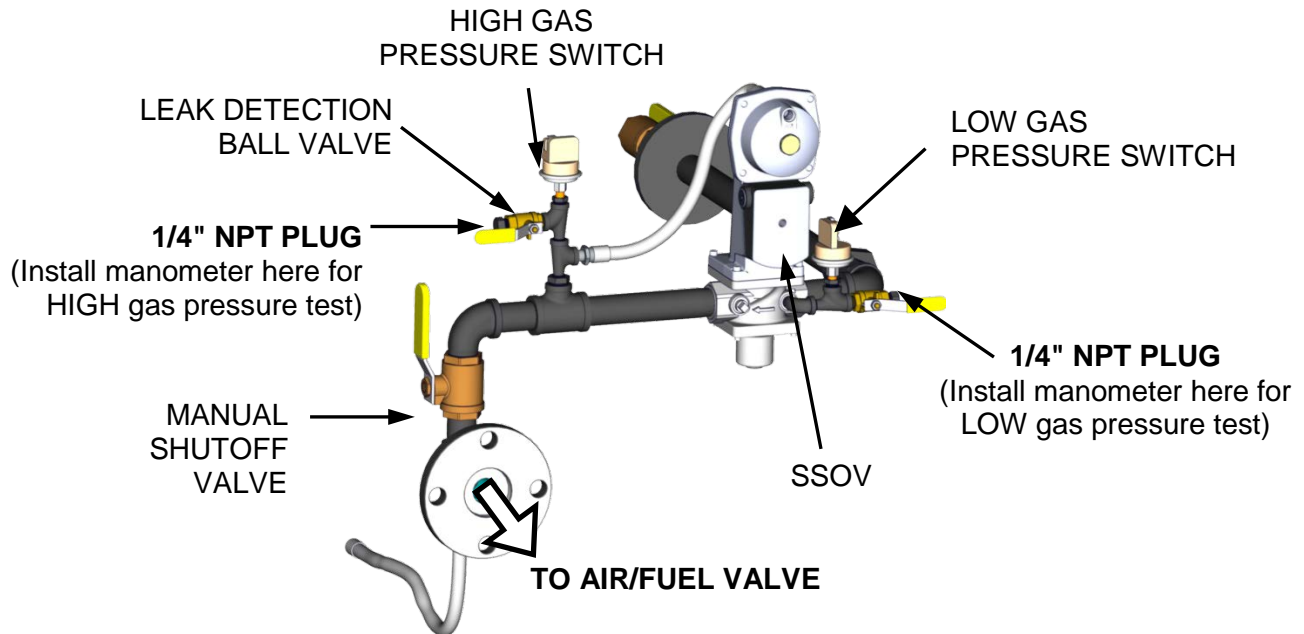

Figure 5-1. Low & High Gas Pressure Testing (INN600-1060 Gas Train)
Refer to Figure 5-1 and ensure that the leak detection ball valve located at the high gas pressure switch is closed.
1. Remove the 1/8" plug from the ball valve at the low gas pressure switch shown in the lower portion of Figure 5-1.
To simulate a high gas pressure fault, refer to Figure 5-1 and proceed as follows:
1. Remove the 1/8" plug from the leak detection ball valve shown in Figure 5-1.